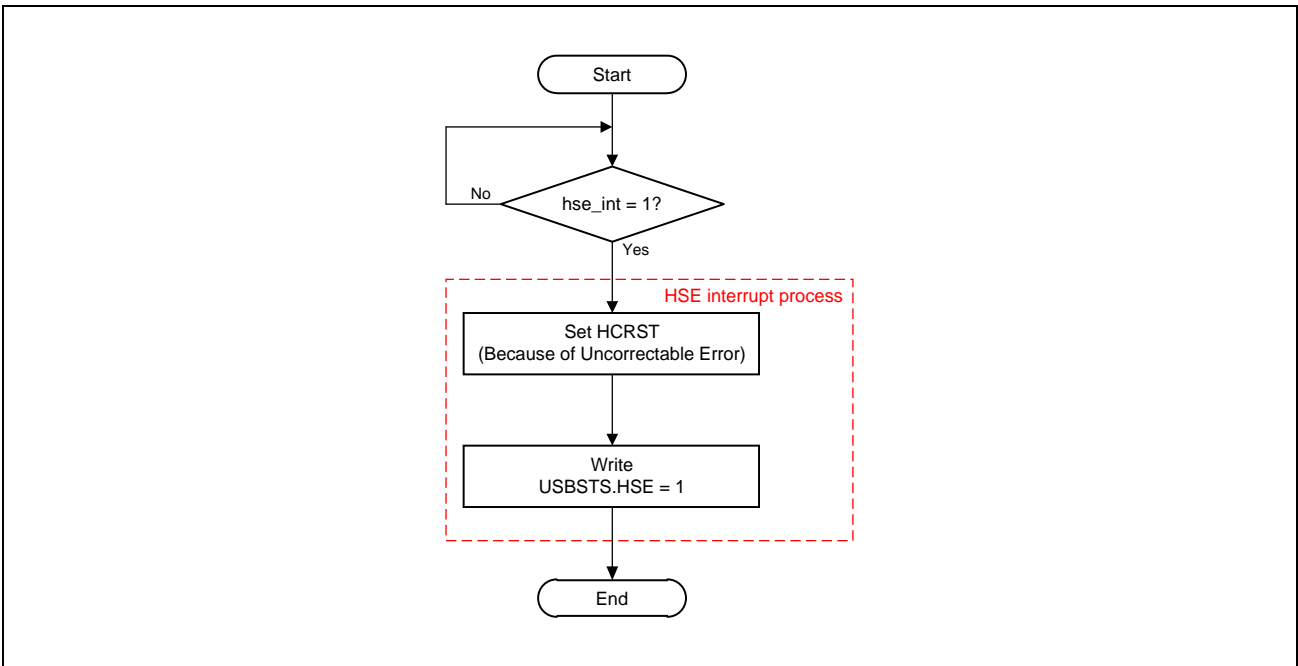

Figure 26.5-8 HSE Interrupt Flowchart
**(4) HSE Interrupt Flow**
**Figure 26.5-8** shows “hse\_int”'s interrupt flow in USB system.